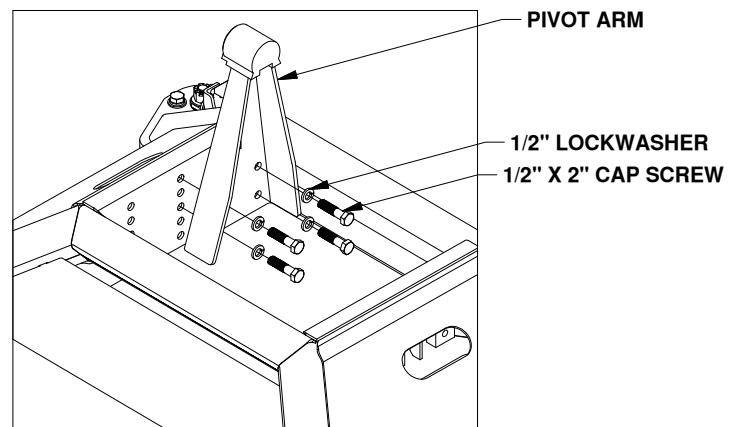
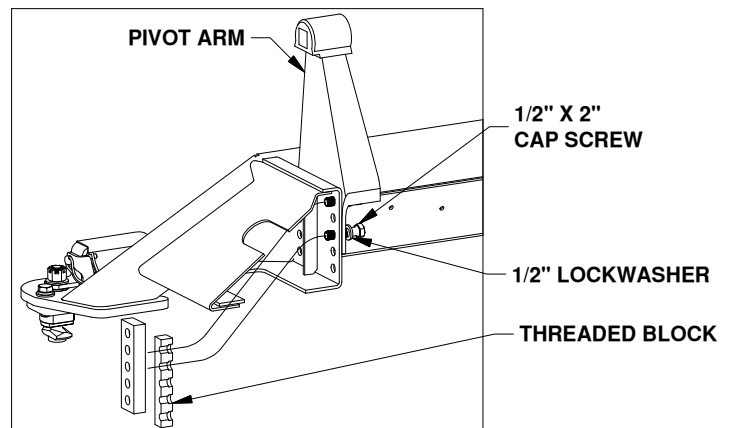

Figure A3: Passenger pivot arm mounting location.
Figure A4: Cutaway view of passenger side bolt plate.
- Secure arms.** Locate both pivot arms, the four threaded blocks, eight 1/2" cap screws, and eight 1/2" lock washers. Place the lock washers over the cap screws. Align the flat side of the pivot arm flat against the bolt plate and install four 1/2" cap screws through the holes on the arm, holding the arm in place, as shown in Figure A3. Locate the threaded blocks. Note that the sides of the block have threaded holes on one side and smooth bored holes on the other side. When installing the threaded blocks it is critical that the side with the smooth holes is flat against the bolt plate when installed. It is also critical that each of the five holes in the threaded block match up with the five vertical holes in the bolt plate. Pass the threaded block under the base's side, align the block with each set of screws, and start each screw, as shown in Figure A4. After all the screws are started through the arms, torque each bolt to 110 ft-lbs.